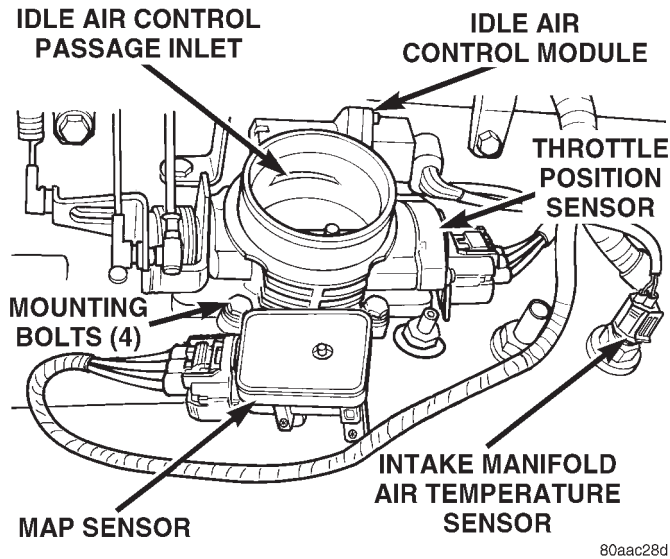

Fig. 58 Intake Manifold Air Temperature Sensor—4.0L Engine
(1) Disconnect the wire harness connector from the intake manifold air temperature sensor (Fig. 58).
(2) Test the resistance of sensor with a high input impedance (digital) volt-ohmmeter. Refer to SENSOR RESISTANCE (OHMS)—COOLANT TEMPERATURE SENSOR/INTAKE AIR TEMPERATURE SENSOR chart. The resistance (as measured across sensor terminals) should be within range shown in chart. If not, replace sensor.
(3) Test the resistance of the wire harness. Do this between the PCM wire harness connector A-15 and the sensor connector terminal. Also check between PCM connector A-4 to the sensor connector terminal. Repair the wire harness as necessary if the resistance is greater than 1 ohm.
To perform a complete test of the TPS (Fig. 58) and its circuitry, refer to the DRB scan tool and appropriate Powertrain Diagnostics Procedures manual. To test the TPS only, refer to the following: